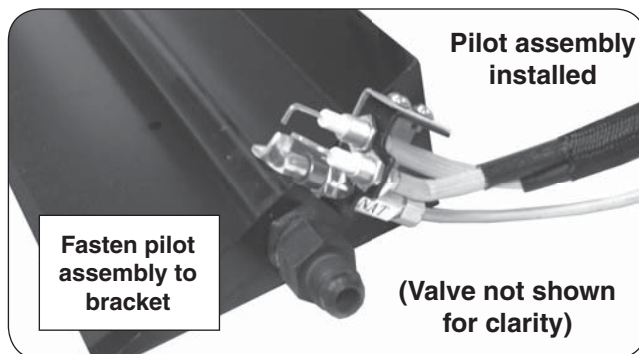

Fig. 9-1
1. Using the two (2) remaining screws, mount the pilot assembly onto the bracket (from below) and tighten until snug (Fig. 9-1). **Check to be certain the pilot hood and probes are situated above the edge of the pan. Adjust if necessary.**